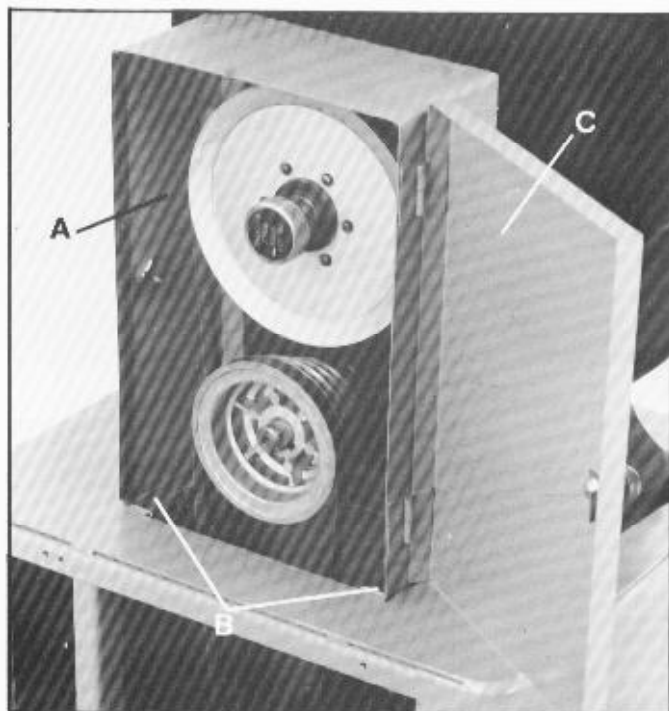

Fig. 6
Place the belt and pulley guard (A) Fig. 6, on the top shelf over the belt opening and position the two clamps (B) over the guard flanges and under the top of the stand as shown. Use the four round head screws in holes in the bottom of the clamps to fasten in place. Place door (C) on hinges of the belt and pulley guard.